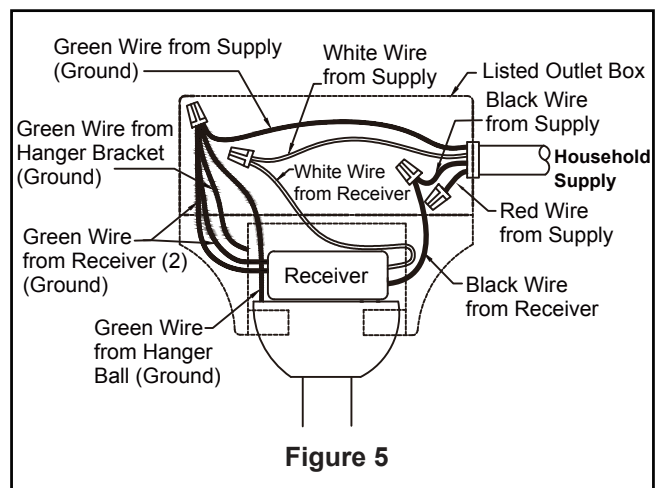

Figure 5
5. Slide downrod into the downrod support on top of the motor. Install the clevis pin by aligning the holes in the downrod support with holes in the downrod. Secure clevis pin with hairpin clip. Install the two set screws with nuts in the downrod support. Securely tighten the set screws with screwdriver then fully tighten the nuts using a hex wrench. (Figure 5)
4. After connections have been made, put the white and green leads to one side and the black leads towards the other side, the connection should be turned upward and carefully push leads into the outlet box. The wires should be spread apart with the grounded conductor and the equipment-grounding conductor on one side of the outlet box and the ungrounded conductor on the other side. (Figure 5)
- 7.** To set the remote code in the same positions as the receiver, use a small screwdriver or ball point pen (neither included) to slide dip switches firmly up or down. (Figure 5)